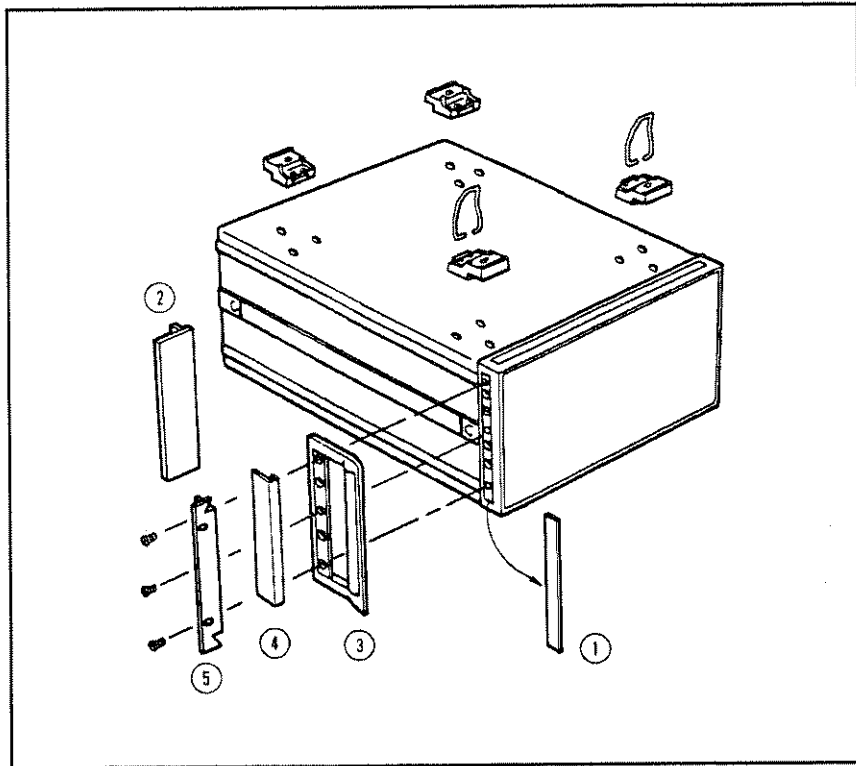

Figure 3-2. Rack Mount Kits Installation
The analyzer can be rack mounted and used as a component in a measurement system. Figure 3-2 shows how to rack mount the HP E5100A/B.
1. Remove the adhesive-backed trim strips ① from the left and right front sides of the HP E5100A/B. (Refer to Figure 3-2.)
2. Attach the front handles ③ to the sides using the screws provided.
3. Attach the trim strips ④ to the handles.
2. Attach the rack mount flange ② to the left and right front sides of the HP E5100A/B using the screws provided.